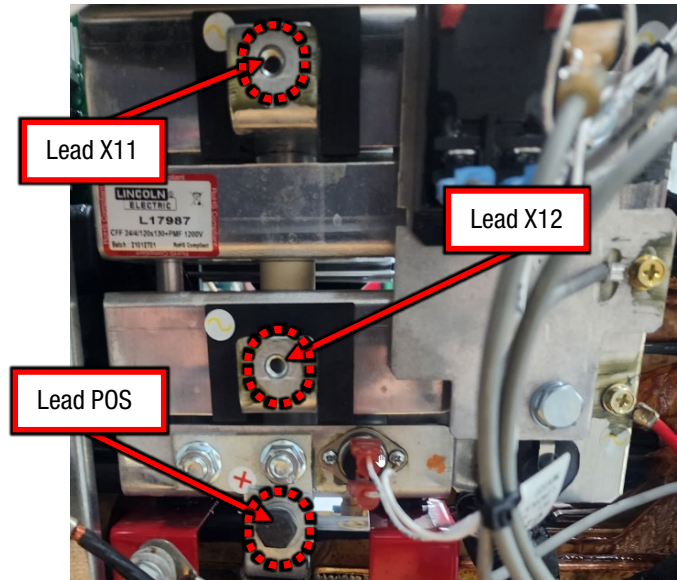

Figure F.2
A.2. Label and disconnect the following connections, refer to Figure F.2. NOTE: LEADS X11 AND X12 REMOVED FOR CLARITY IN FIGURE F.2.
A.3. Perform the static measurements in Test Table 1, refer to Figure F.2 for test point Locations, set the switch “Condition(s)” as directed in Table 1. NOTE: MEASUREMENTS ARE TAKEN ON THE TERMINALS NOT LEADS.